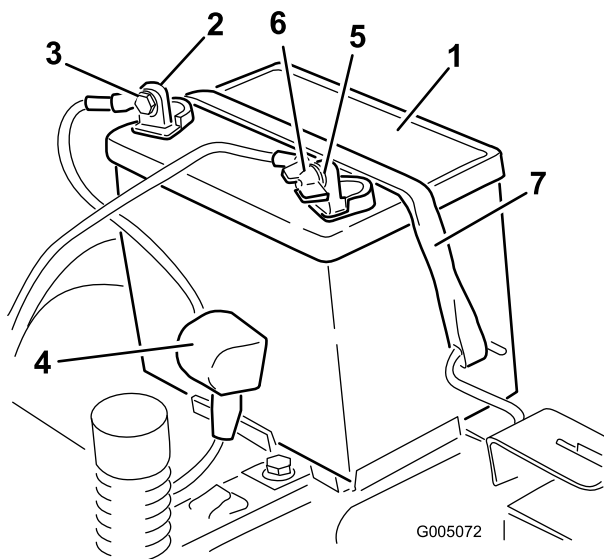

Figure 37
4. Disconnect the negative (black) ground cable from the battery post (Figure 37).
6. Disconnect the positive (red) cable from the battery post (Figure 37).
7. Remove the battery hold-down and lift the battery from the battery tray (Figure 37).
1. Position the battery in the tray (Figure 37).
5. Secure the battery with the hold-down (Figure 37).